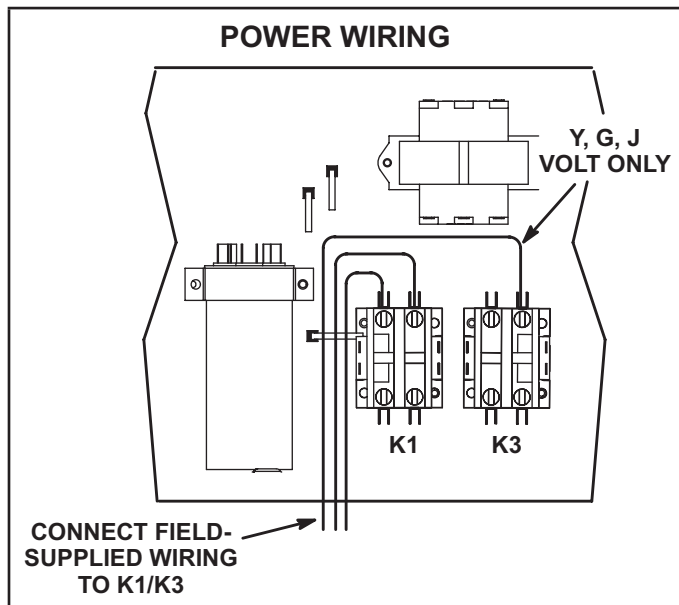

FIGURE 7
- 2 - Route power through the side or bottom power entry area. For bottom power entry, a bottom power entry kit must be used. Connect power wiring to K1/K3 contactors in control box. See FIGURE 7. On units equipped with electric heat, route power wiring to TB2; see parts arrangement for location. See unit wiring diagram.